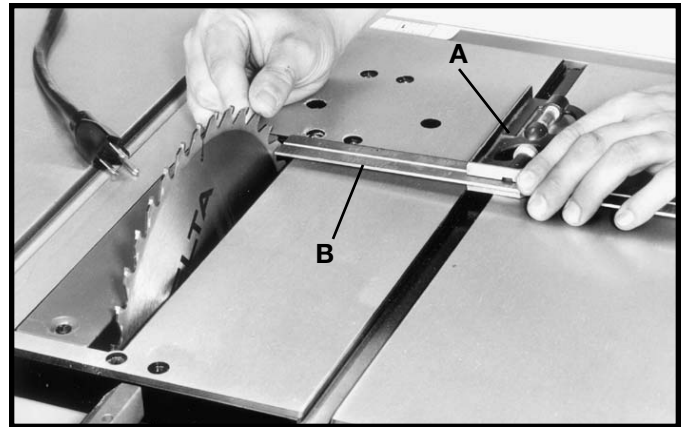
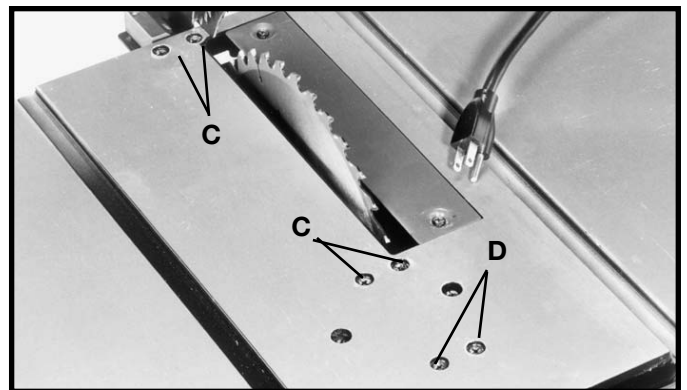

Fig. 50
Fig. 52
4. Using a combination square, place the body (A) Fig. 50, of the square against the miter gage slot and adjust the blade (B) of the square until it just touches the marked tooth, as shown.
6. If the front and back measurements, shown in Figs. 50 and 51, are not identical, loosen four screws (C) Fig. 52. Carefully grasp and move the saw blade until the blade is parallel to the miter gage slot. Then tighten four screws (C) Fig. 52, securely. **NOTE:** If sufficient adjustment cannot be achieved by loosening screws (C), screws (D) may also be loosened if absolutely necessary to make the adjustment.